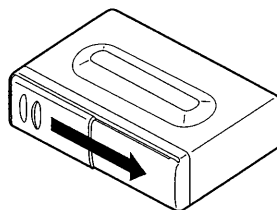

Fig. 37
1. Slide and open the door. Open it fully until it locks with a click. (Fig. 37)